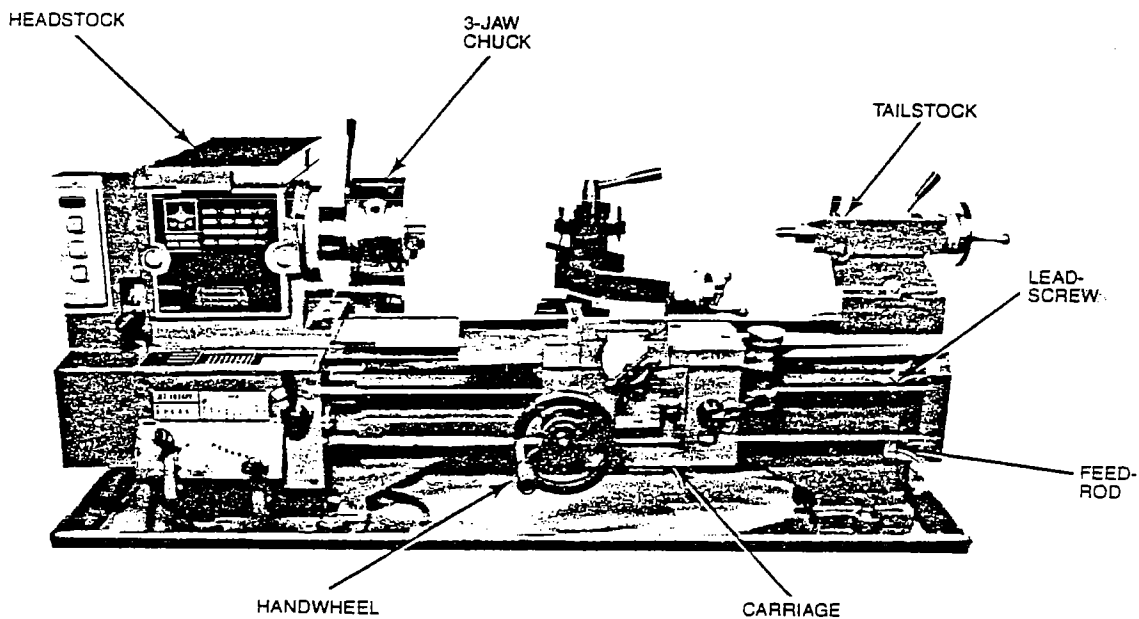

FIGURE 2
The JET 1026P (Y)/1236P (Y) belt drive bench lathe is shown in Figure 2.